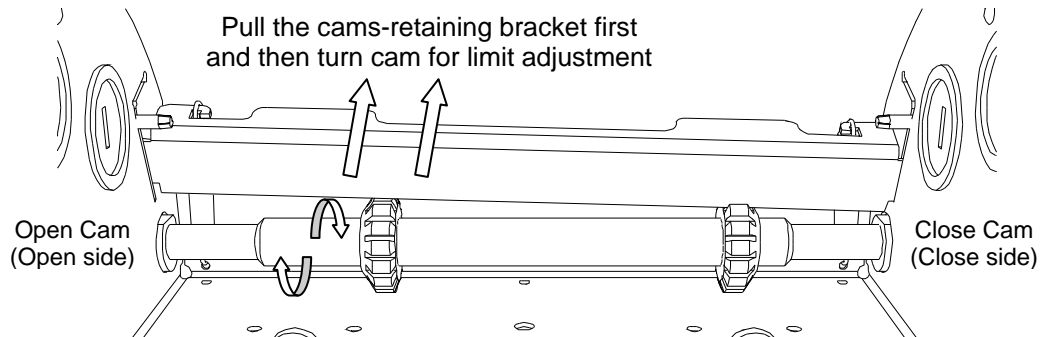

Figure 13 Adjusting the limit cams
2. Pull the cams-retaining bracket from the Open side and rotate manually the Open cam (*Figure 13*) until the cam activates the limit switches sufficiently so as to hear the switches click (2 clicks for hardwired circuit. Only one click with ECB and check if the OPEN limit light is ON).
5. Pull the cams-retaining bracket from the Close side and rotate manually the Close cam (*Figure 13*) until the cam activates the Close limit switch sufficiently so as to hear the switch click (2 clicks for hardwired circuit. Only one click with ECB and check if the CLOSE limit light is ON).